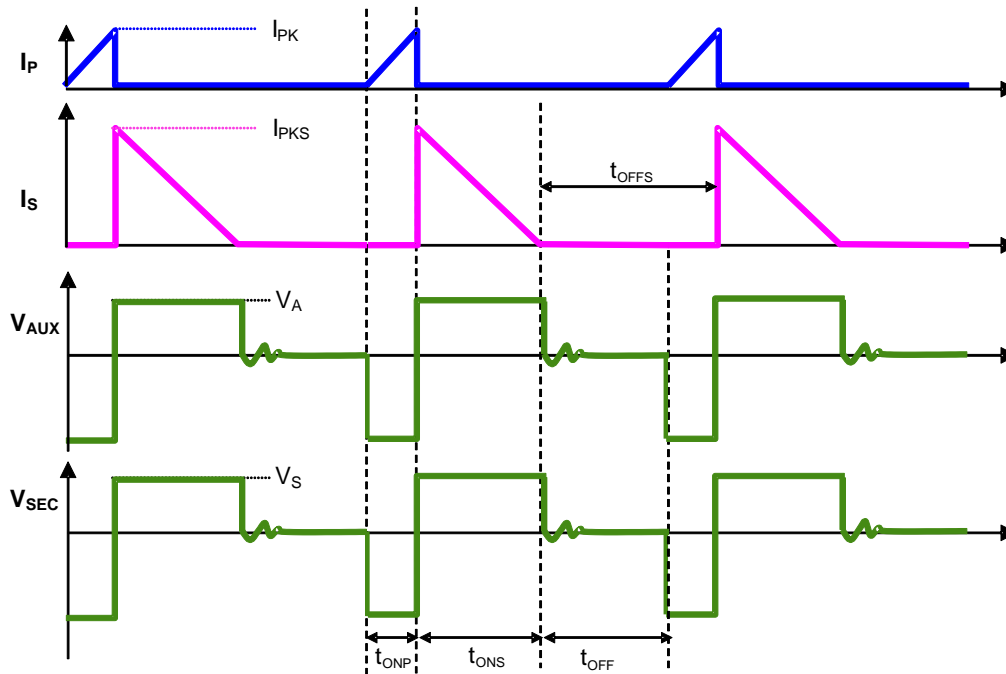

Figure 2. The Operation Waveform of Flyback PSR System
As illustrated in Figure 2, when the current $i_p(t)$ rises up to I_{PK} , the switch Q1 turns off. The constant peak current is given by:
The AP3776 can work in constant-current (CC) mode. Figure 2 shows the secondary current waveforms.